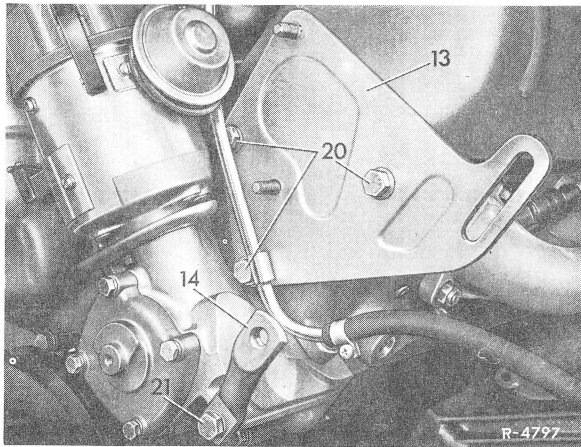

Fig. 4
10 Tighten hex bolts (20) holding plate (13) to cylinder head (Fig. 4).